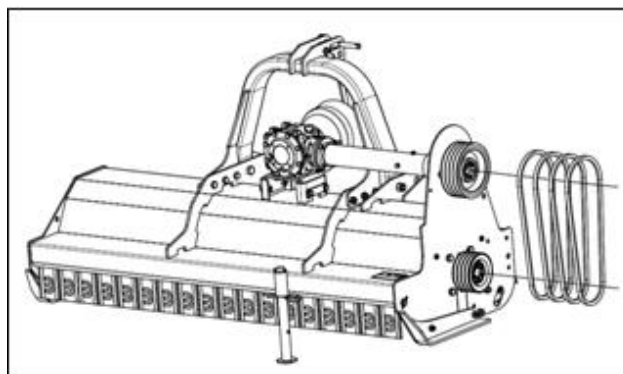

Figure 30
4. As the belts are no longer tensioned, they can be replaced (figure 30). It is important to check the state of wear of the pulleys by cleaning the grooves.